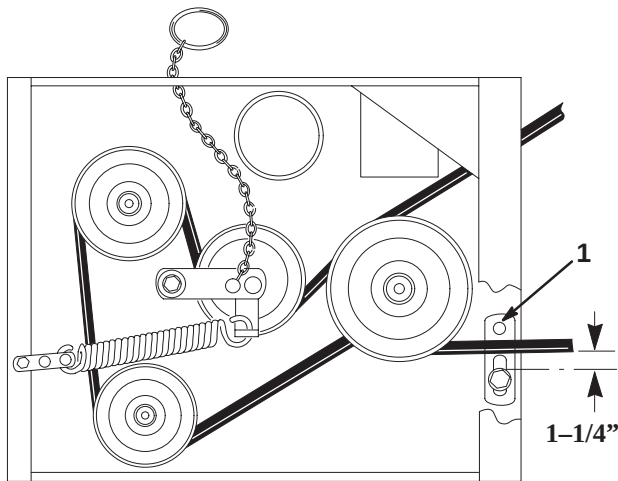

Figure 59
13. Check the belt guide under the engine frame for the proper adjustment (Fig. 59).
Note: The distance between the belt guide and the mower belt should be 1-1/4 in. (32 mm) when you engage the mower belt (Fig. 59). Adjust the mower belt